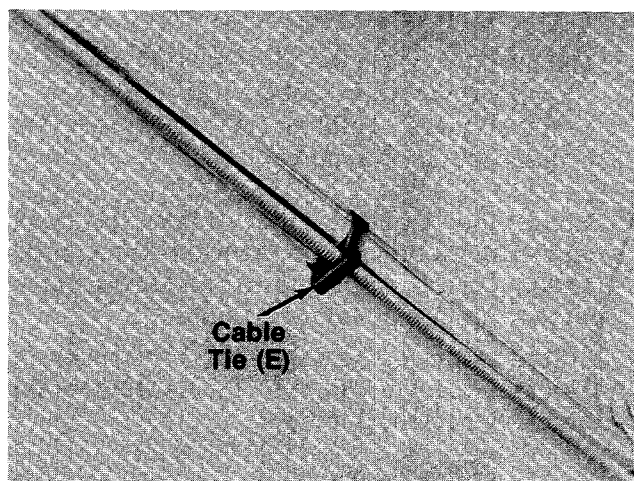

**FIGURE 5.**
- ← 5. Place the throttle control in position on right side of upper handle. Secure with hex bolt (F) and lock nut (G). See figure 5.